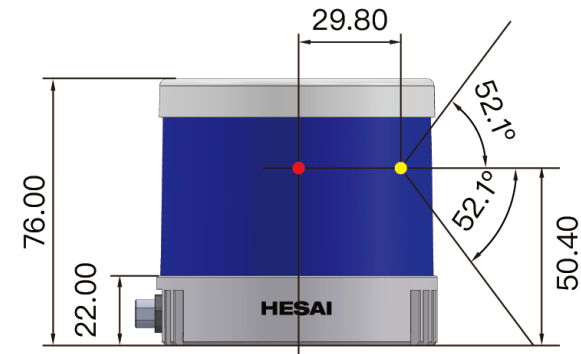

Figure 1.6 Laser Firing Position (Unit: mm)
The origin is shown as a red dot in Figure 1.6 on the next page. All measurements are relative to the origin.
**NOTE** The calibration file provides the elevation and azimuth of each channel's incident beam, relative to the center of the entrance pupil (shown as a yellow dot in Figure 1.6).